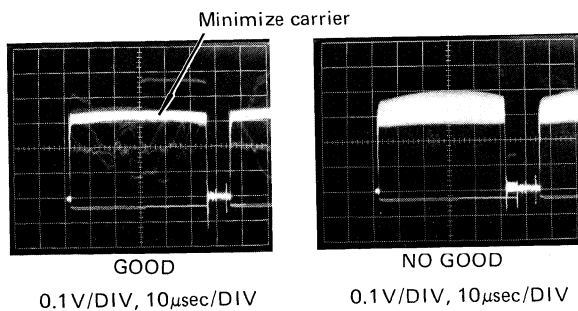

Fig. 4-2-21
- Adjust H.SIZE VR2 so that the carrier (5.0MHz) on the centre portion of the YH signal at YH TP3 is minimum. (Fig. 4-2-21)